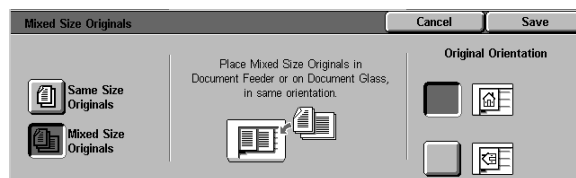

Figure 35: Mixed Size Originals screen with Mixed Size option selected
- Touch the **Mixed Size Originals** option when the original documents are different sizes, as illustrated in Figure 35.